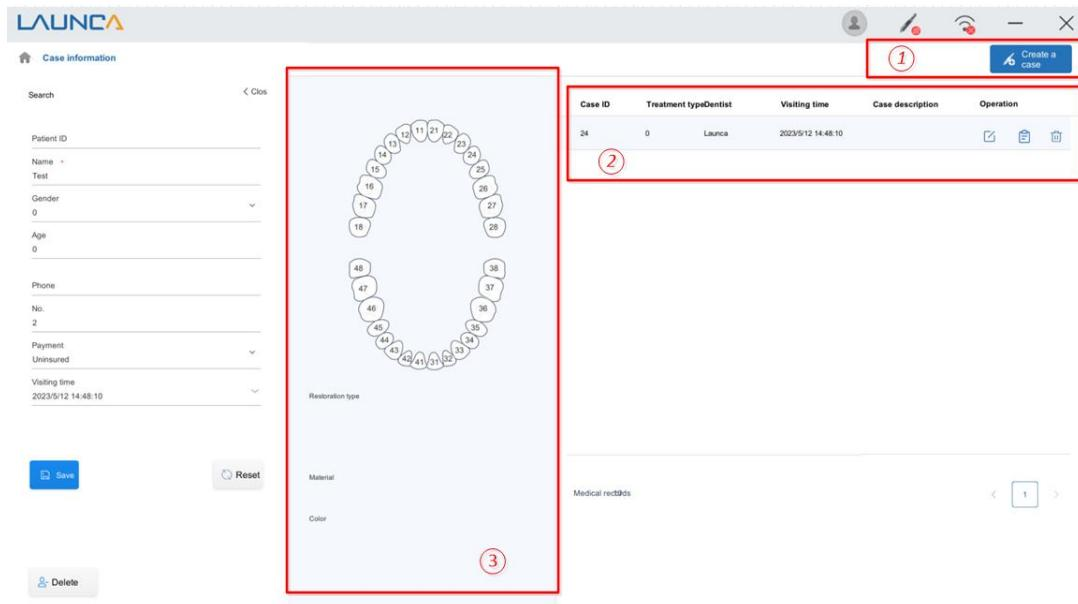
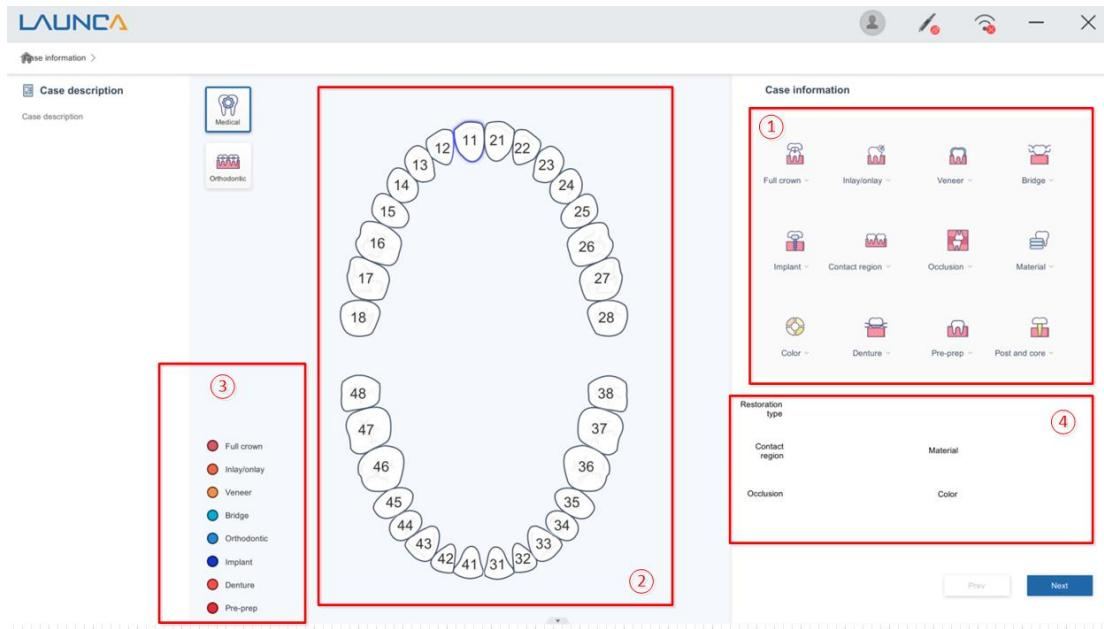

Fig. 4-4 View Patient Information and Case Records
Fig. 4-5 Case Information
Click the  icon in the existing case records (as shown in Fig. 4-4) to enter the case information interface as shown in Fig. 4-5. The case can be set up following the below steps:
- 1) The teeth in the dental arch diagram (area ② in Fig. 4-5) will be selected and edited one by one. The position number of the selected tooth will turn red. The Dentist can edit the selected tooth with the **Case Menu** in the area ① shown in Fig. 4-5. The area ③ in Fig. 4-5 is the information area for the selected tooth.
- 2) If there is other necessary information in addition to the case options you can enter them in the "Case remarks" area ④ in Fig. 4-5.
- Information of areas No. 2, No. 3, and No. 4 in Fig. 4-5 will appear in the order information. Therefore, please confirm the contents before sending an order.